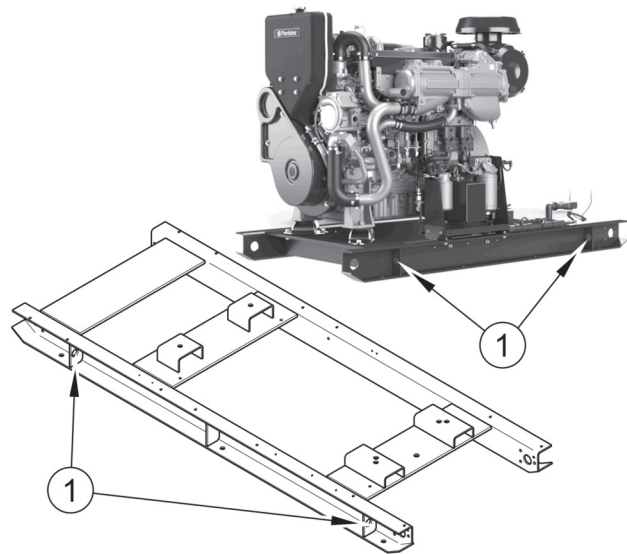

Figure 4
Lifting points have been provided (figure 4 item 1) on the base rails of the auxiliary unit for lifting the entire package.
Lifting straps and spreader bars must be used to lift the entire package using lifting points (figure 4 item 1).